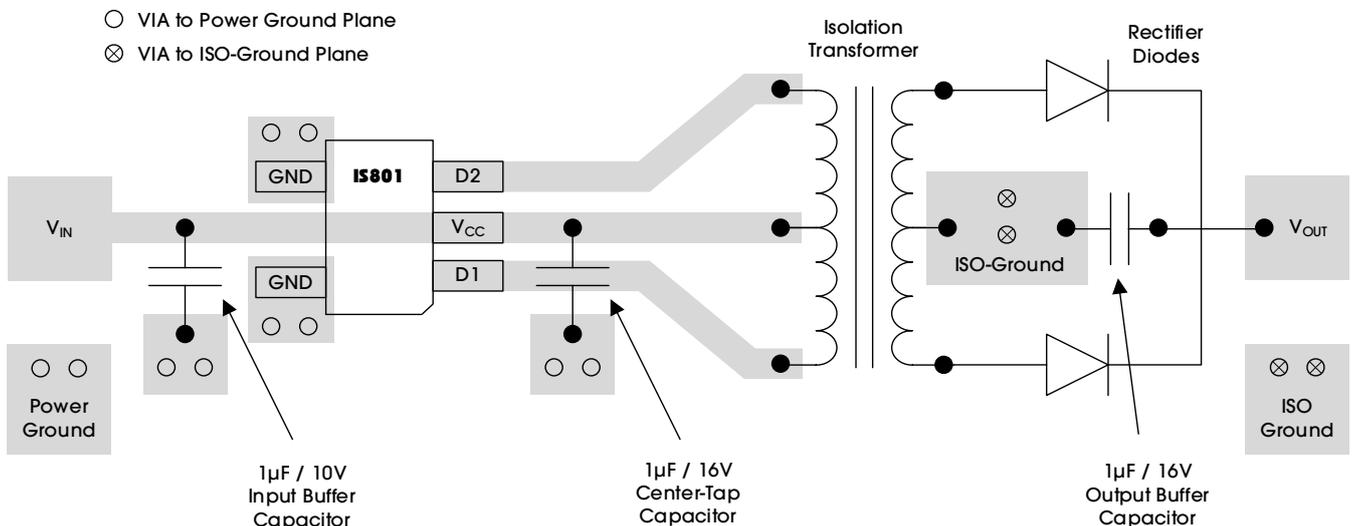

Figure 24. Layout Example of a 2-Layer Board (IS801)
- The optimum placement is closest to the  $V_{IN}$  and GND pins at the board entrance to minimize the loop area formed by the bypass-capacitor connection, the  $V_{IN}$  terminal, and the GND pin. See Figure 24 for a PCB layout example.